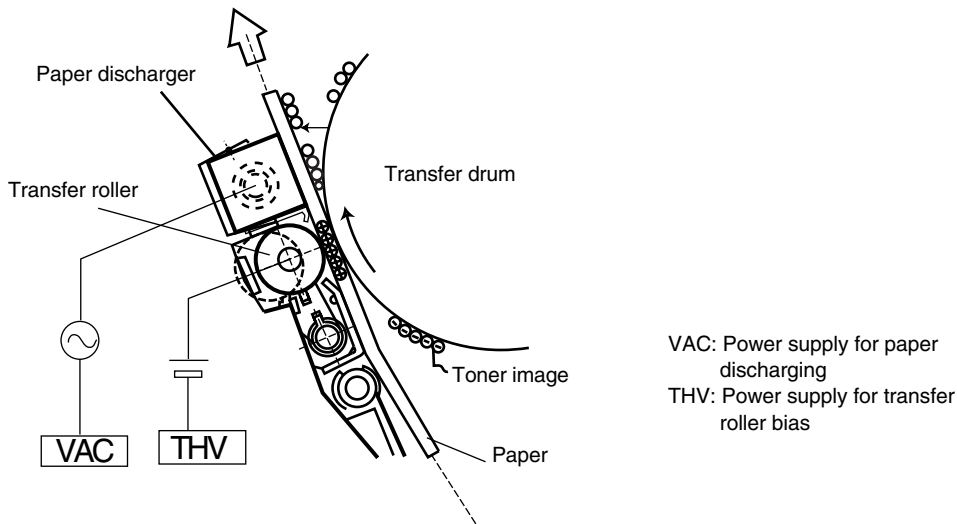

Fig. 4-21
(2) Second Transfer Process (Refer to Fig.4-21.)